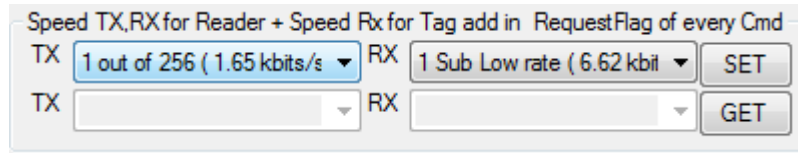

Figure 13 TX and RX Speed for reader CODEC in ISO15693 protocol
- 6) Click "SET" button, shown in Figure 13, to configure codec speed of reader